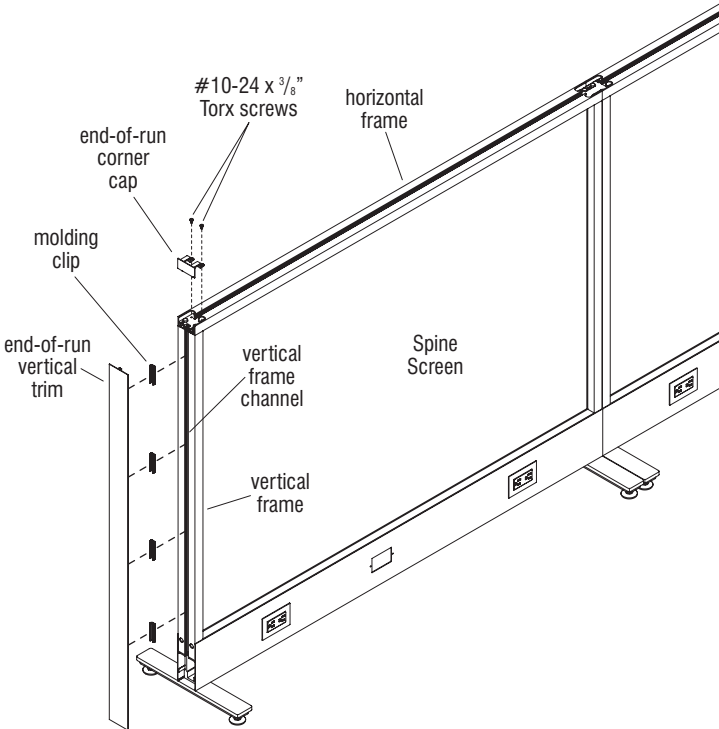

Figure 44
3. On the rib side of the end-of-run vertical trim, space molding clips evenly apart and press them onto the ribs of the end-of-run trim as illustrated (Figure 44).
4. Position the end-of-run vertical trim with molding clips up against the vertical frame channel. Using a firm hand, press on the vertical trim at the molding clip locations to snap molding clips into the vertical frame channel (Figure 44).
5. Place the end-of-run corner cap into the notch formed on the top corner of the horizontal frame. Align the mounting holes on the horizontal frame with the mounting holes on the corner cap and secure with two #10-24 x 3/8" Torx screws (Figure 44).